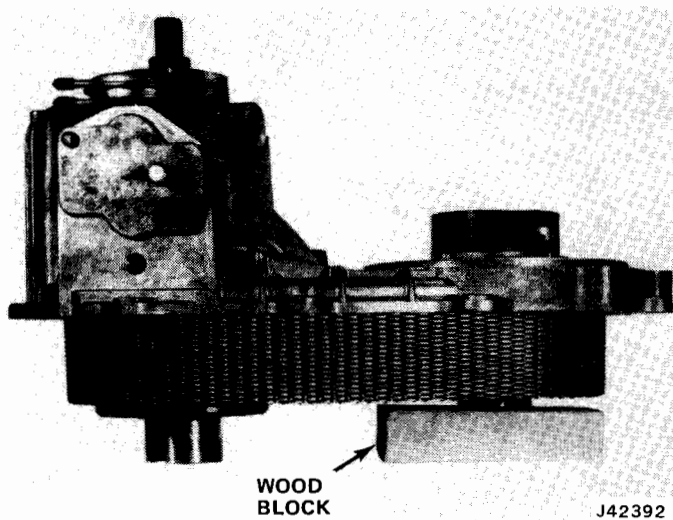

Fig. 8-41 Transfer Case Cover Positioned for Disassembly
- (3) Using wooden block 2 by 4 by 6 inches long, position cover and drive sprocket on wooden block (fig. 8-41).
(4) If not equipped with reduction unit, remove drive hub and sleeve from drive sprocket rear splines by expanding internal snap ring (the ring expanding tabs are accessible through a slot in the outside edge of the drive sleeve).
(5) If equipped with reduction unit, remove pinion cage snap ring and carrier.
(6) Remove case cover from drive sprocket and differential. Cover, rear output shaft, bearings, and seal,
(5) Using wooden block 2 by 4 by 6 inches long, position cover and drive sprocket on wooden block (fig. 8-41).
(6) If not equipped with reduction unit, remove drive hub and sleeve from drive sprocket rear splines by expanding internal snap ring.